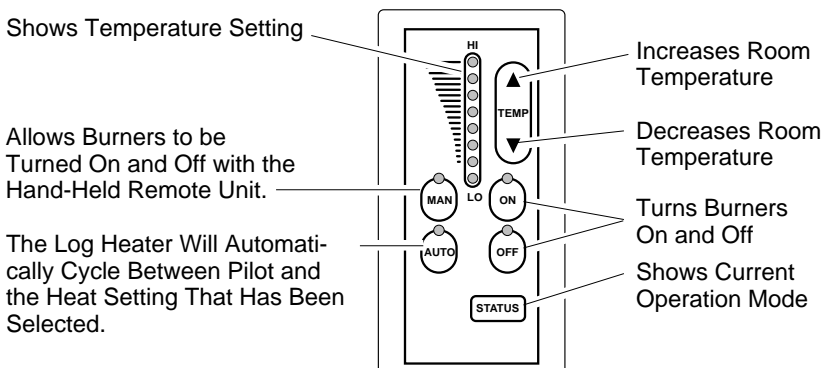

Figure 33 - Thermostat Hand-Held Remote Control Unit Selections
- 2b. Select the MAN (manual) or AUTO button on the hand-held remote control unit (see Figure 33, page 17).